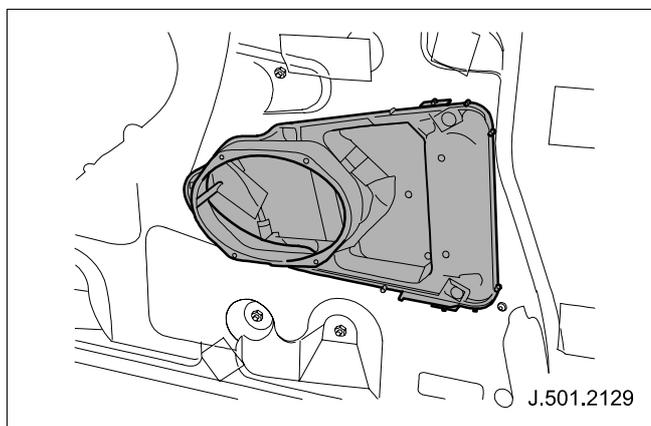

Fig. 7
- 7 Door speaker module. (See Fig. 7)